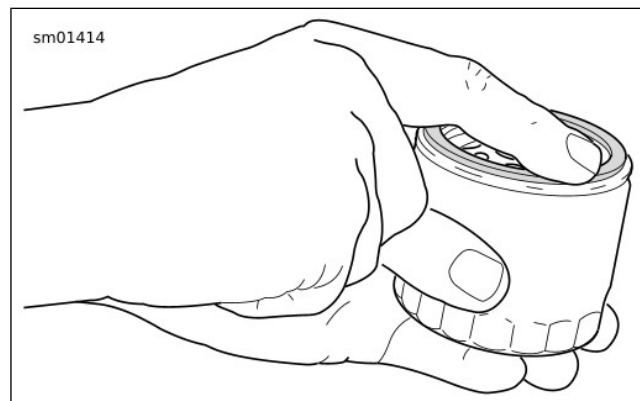

Figure 58. Lubricating New Oil Filter Gasket
9. Figure 58 Install **new** oil filter.